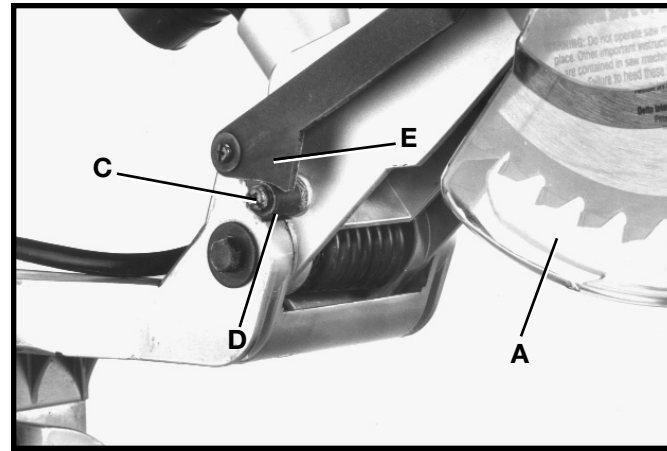

Fig. 49
2. As soon as the cuttinghead begins to lower, the lower blade guard (A) Fig. 49, should begin to move. If it does not, loosen screw (C) and rotate eccentric (D) so that the eccentric (D) is contacting the actuating arm (E) when the cuttinghead is in the top position. Then tighten screw (C).